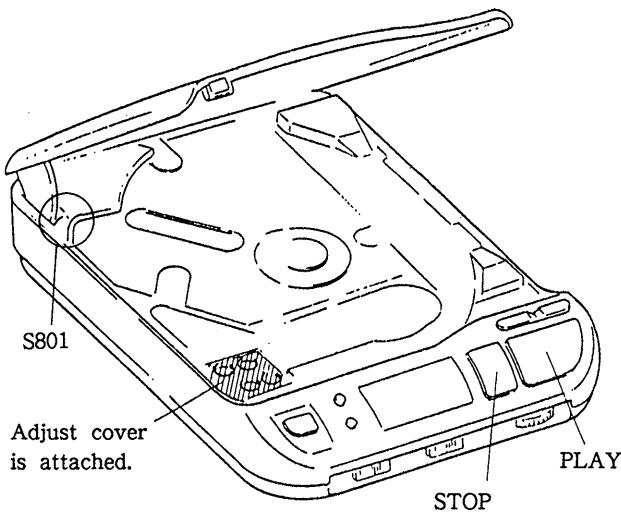

Fig. 1 Laser diode emission check
2. S801 on as Fig. 1.
Special mode for normal operation check (See Fig. 1.)